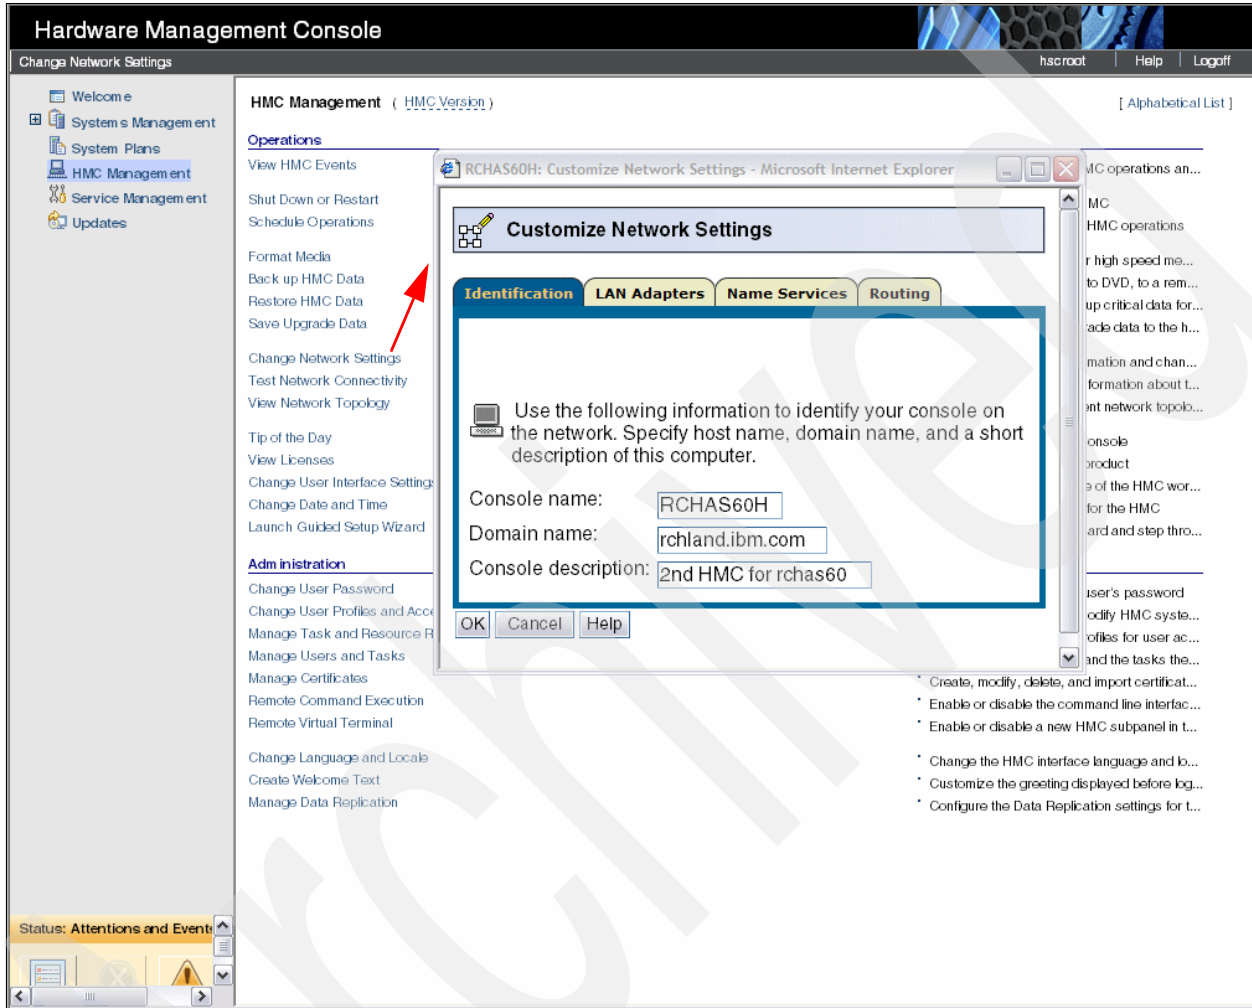

Figure 3-10 Customize Network Setting - LAN Adapters for enabling Remote Management and Control
1. On the HMC, first open HMC Management to get the background right pane shown in Figure 3-10. Select **Change Network Settings**. On the Customize Network Settings window select the **LAN Adapters** tab.